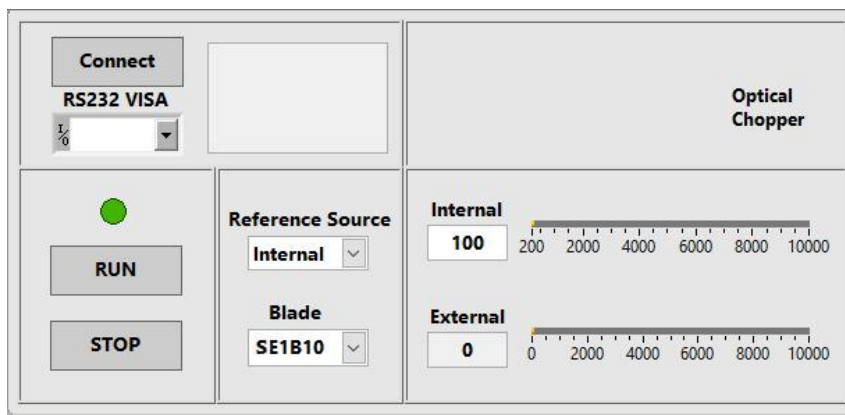

Fig.11 Software interface
1. Open the first file “Console_EN” and then double click the “Console_EN.exe”. If the former steps succeed, then Fig.11 will occur.